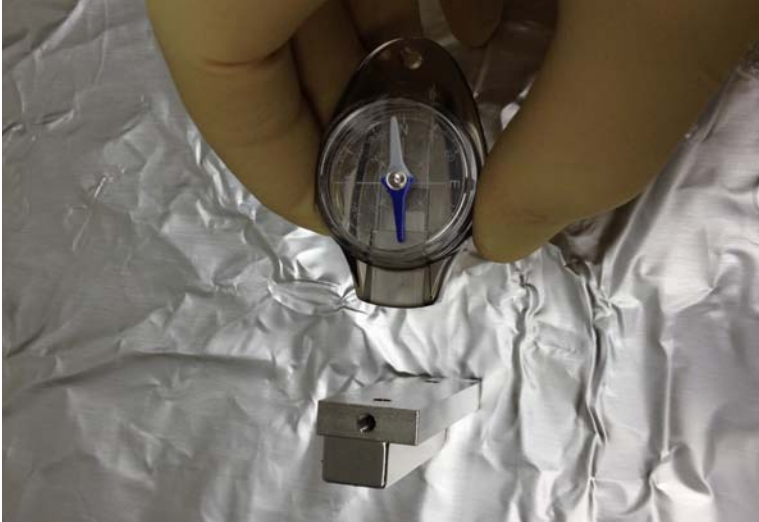

Figure 3. Magnet on a side plate.
2. Carefully place the four D1200998 magnets on each of the four D1102129 Linear Motor Side Plates as shown in Figure 3. Use the compass to orient the magnets such that there are two magnet/plate pairs with S facing outward and two with N facing outward. Note that the poles of the magnets are on the large flat faces (not on the ends) so aim the compass at the large faces.